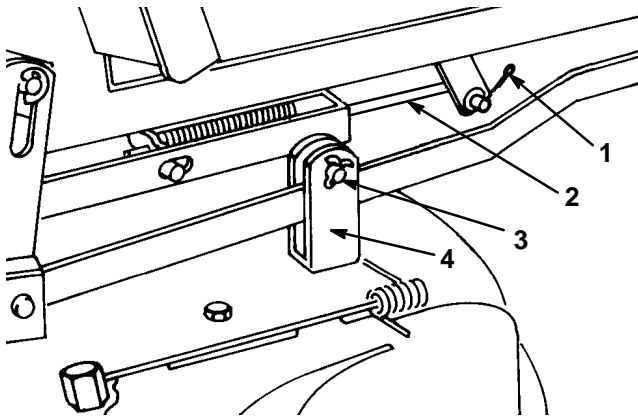

Figure 33
5. Remove cotter pin from adjustment rod and pull from pivot tube arm (Fig. 33).
2. Remove cotter pin from adjustment rod (Fig. 33).